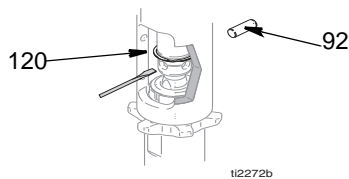
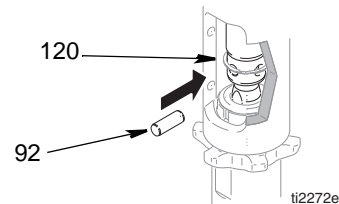

FIG. 8
FIG. 11
- 4 (Fig. 8) Push retaining ring (120) up; push out pin (92).
- 2 (Fig. 11) Slowly pull engine starter rope until pump rod pin hole is aligned with hydraulic rod hole. Fig. 8. Push pin (92) into hole. Push retaining ring (120) into groove.